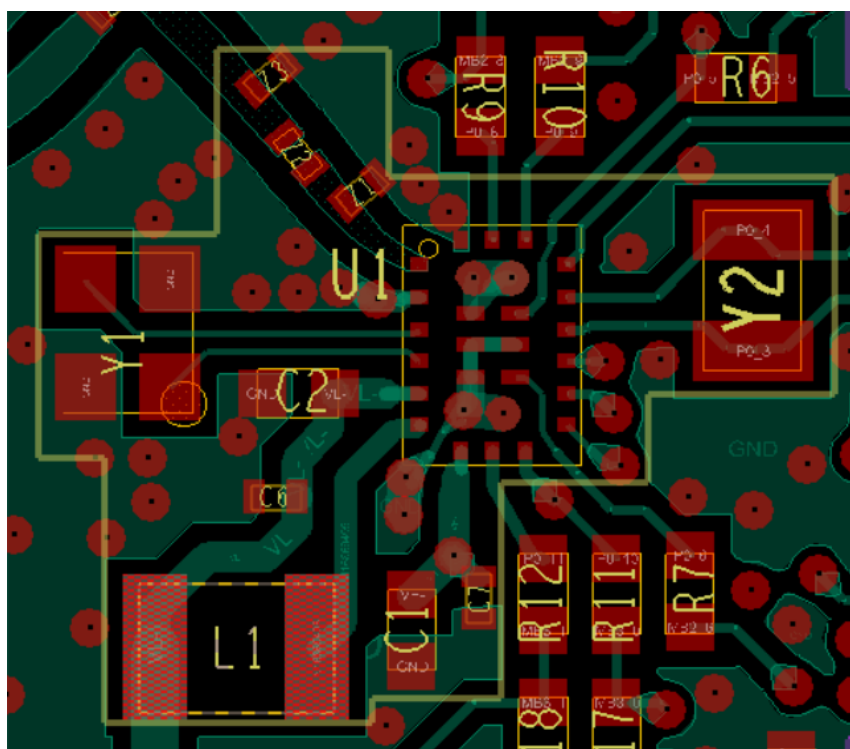

Figure 30: PCB Placement and Routing – Top Layer
- Connect pin 19 to GND with vias as shown in Figure 30
- Short 20, 21, 23 GND pins together and use two GND vias, as shown in Figure 30